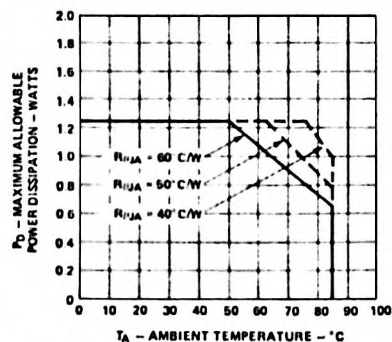

Figure 2. Maximum Allowable Power Dissipation vs. Temperature
- The device should be derated linearly above 50°C at 167 mW/°C. This derating is based on a device mounted in a socket having a thermal resistance from case to ambient at 35°C/W per device. See Figure 2 for power deratings based on a lower thermal resistance.
The HDSP-2000/-2001/-2002/-2003 are available in standard ceramic dual-in-line packages. They are designed for plugging into sockets or soldering into PC boards. The packages may be horizontally or vertically stacked for character arrays of any desired size. Full power operation ($V_{CC} = 5.25V$, $V_B = 2.4V$, $V_{COL} = 3.5V$) with worst case thermal resistance from IC junction to ambient of $60^\circ C/watt/device$ is possible up to ambient temperature of $50^\circ C$. For operation above $50^\circ C$, the maximum device dissipation should be derated linearly at $16.7 mW/^\circ C$ (see Figure 2). With an improved thermal design, operation at higher ambient temperatures without derating is possible.